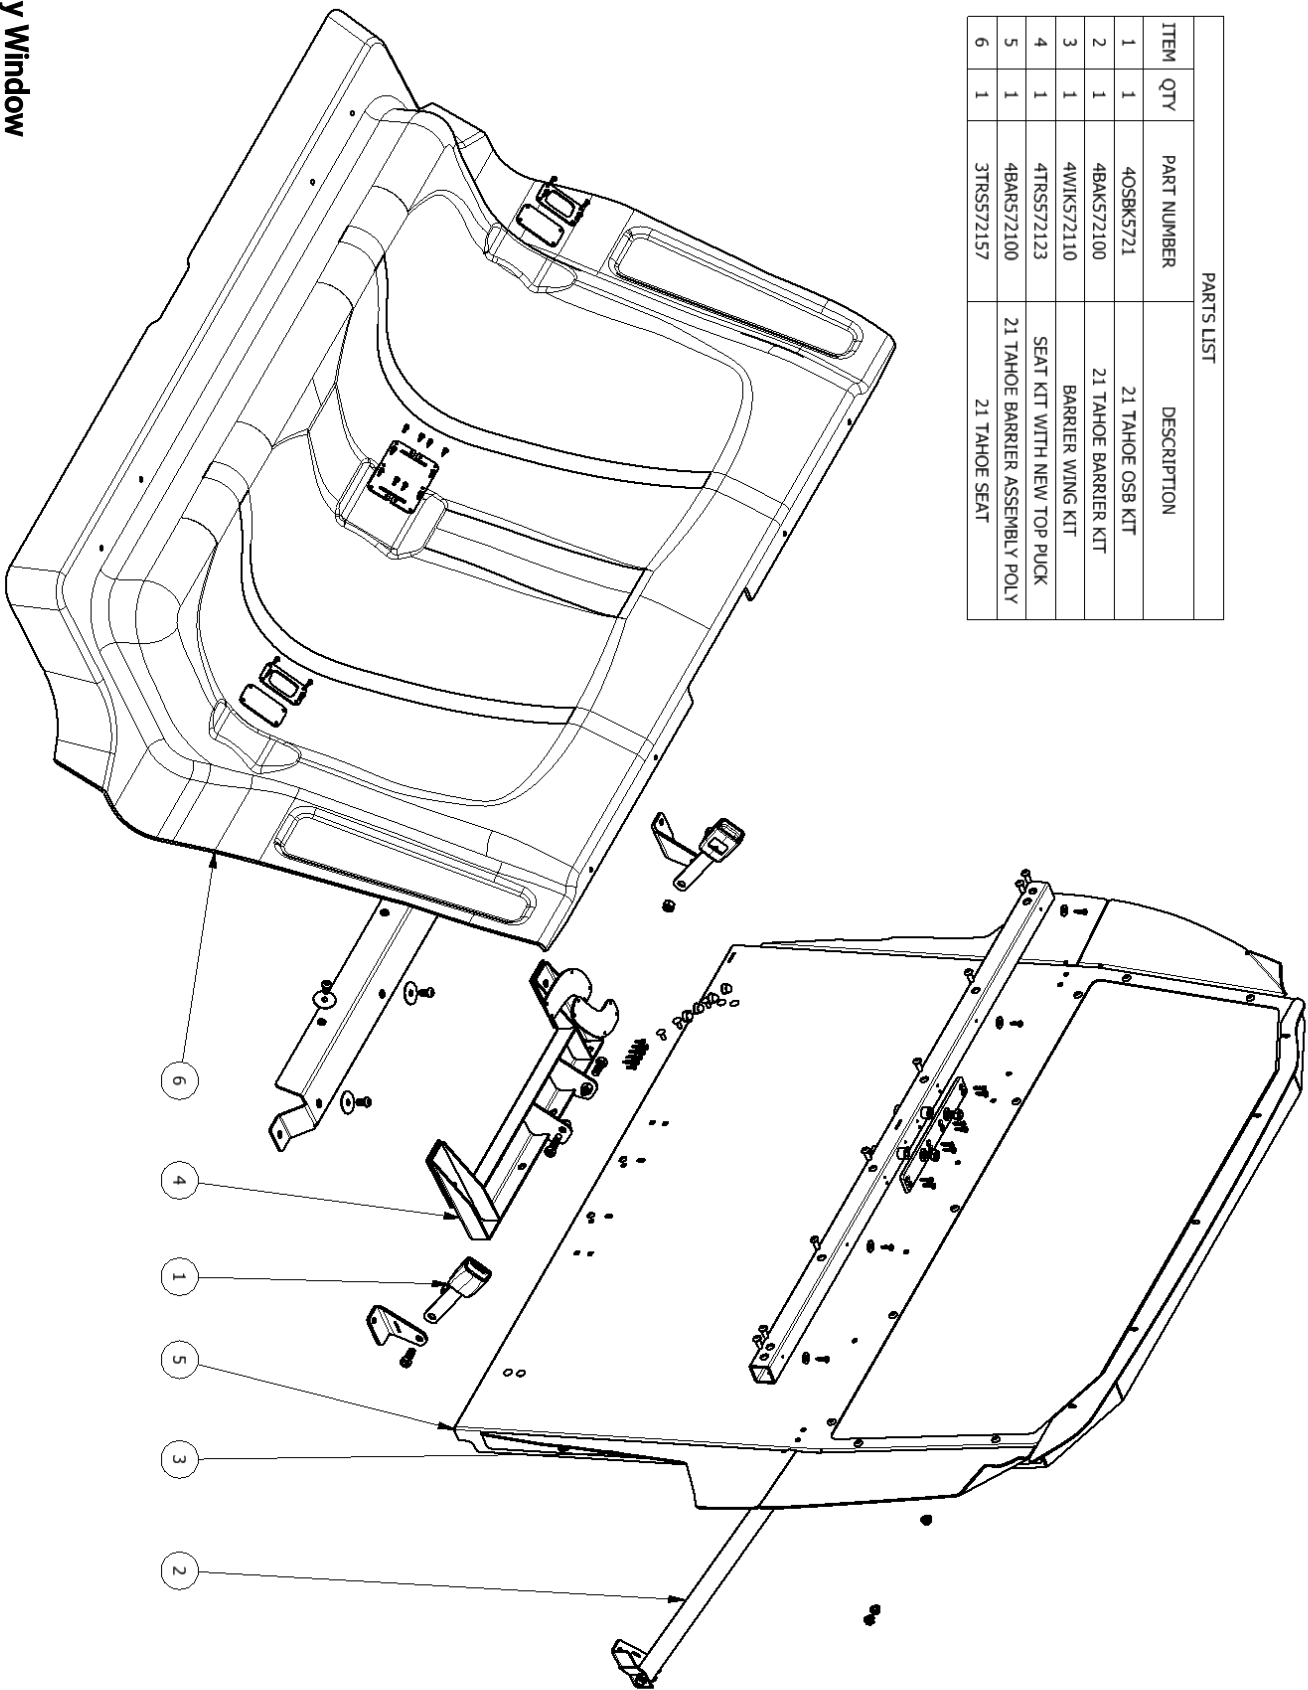

Figure 6
- B. Find the Upper Anchor Points on the OSB belt(s). Attach the anchor point(s) to the OSB Bar using (1) 7/16" hex bolt [3X616] per belt. If using the P1000 OSB system this step will only be done for the passenger side.
- C. Locate the Passenger Cover Puck [3OSB572110] and (5) phillips head screws [3X72]. Align the puck over where the shoulder portion of the OEM belt used to come out of the C-pillar - the puck should line up perfectly with the trim piece that was removed from the OEM belt. If it does not line up correctly, try the other puck as they are different. Once aligned, secure to the trim piece with the (5) screws.
- D. Repeat step C. for the driver side with the Driver Cover Puck [3OSB572111] and (5) additional screws [3X72].
- E. Locate (1) Partition Buckle [3OSB000001], (2) 1/4" carriage bolts [3X36], (2) 1/4" whiz nuts [3X16Z], and (2) plastic nut caps [3X145]. Position the Partition Buckle in the desired belt park position on the passenger Partition Mounting Plate, mark the location for (2) holes, drill the holes, then attach the buckle to the partition with the hardware gathered. Repeat for the driver side if using a full OSB system. Figure 6 shows the recommended position for the Partition Buckles.